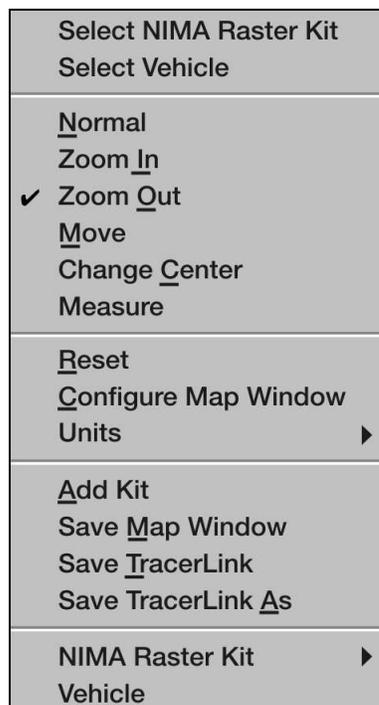

Figure 3-109. Right Click Popup Menu
- (2) Right click the Pop Up Menu (see Figure 3-109).
- (3) Zoom the Map. To zoom, right click on the map to show the pop up menu. Select Zoom In or Zoom Out. Click on the map at the point you wish to become the center of the map. The map will zoom with the point clicked becoming the new center of the map.
- (4) Change Center. Right click the mouse over the map to pop up the menu, select Change Center. Click on the map and the map will move with the point clicked becoming the new center of the map.